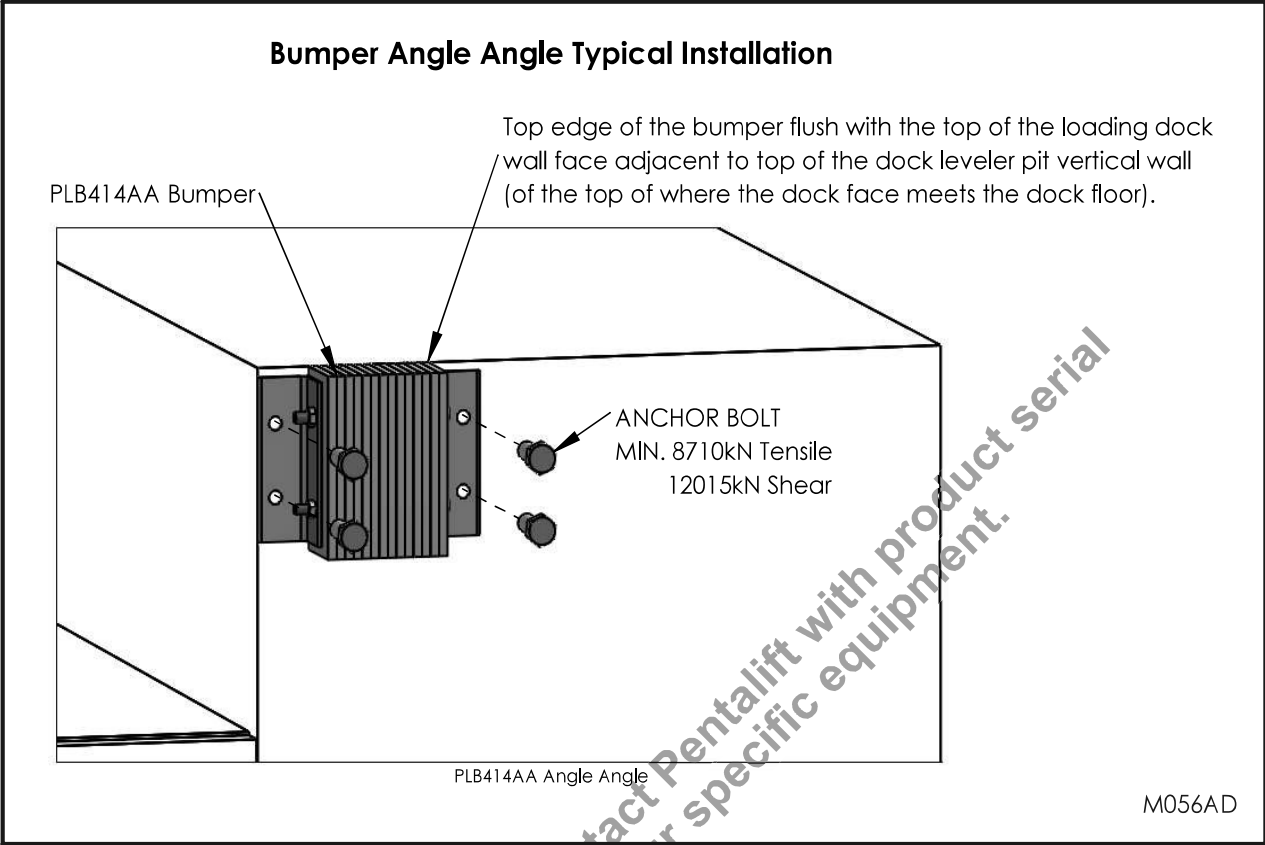
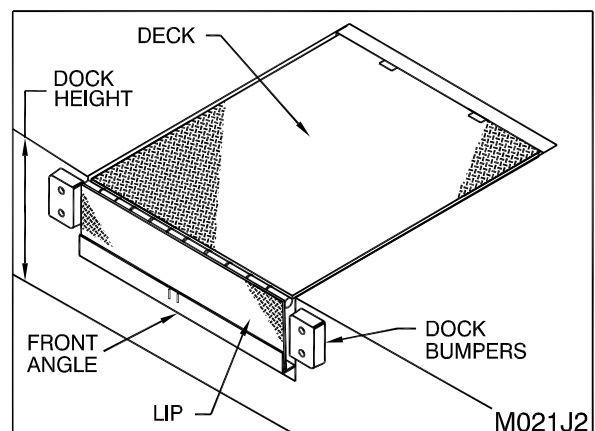

Figure 54: PLB414AA Installation
Figure 56: Deck in (Cross Traffic) Stored Position
1. Load or unload End Loads with the deck and lip in the stored position as shown in “Figure 54: Deck in (Cross Traffic) Stored Position” on page 47(See “Figure 56: Below Level End Loads” on page 48)
4. Proceed to load/unload the vehicle. When completed, return the dock to its stored position by depressing the RAISE button. As the leveler raises the lip will retract. When the lip is fully retracted and above the lip keepers or front angle of the frame, **release** the **RAISE** button. The leveler will float down to the stored position. Confirm lip is properly positioned behind lip keepers or tuck inside the frame front angle. (See “Figure 54: Deck in (Cross Traffic) Stored Position” on page 47)
2. Release the raise button and walk onto the dock leveler to pull the (optional) below level release ring (located at the front of the dock leveler) the lip will extend to clear the lip keepers as the dock leveler lowers to the below level stops (See "Figure 56: Below Level End Loads" on page 48).